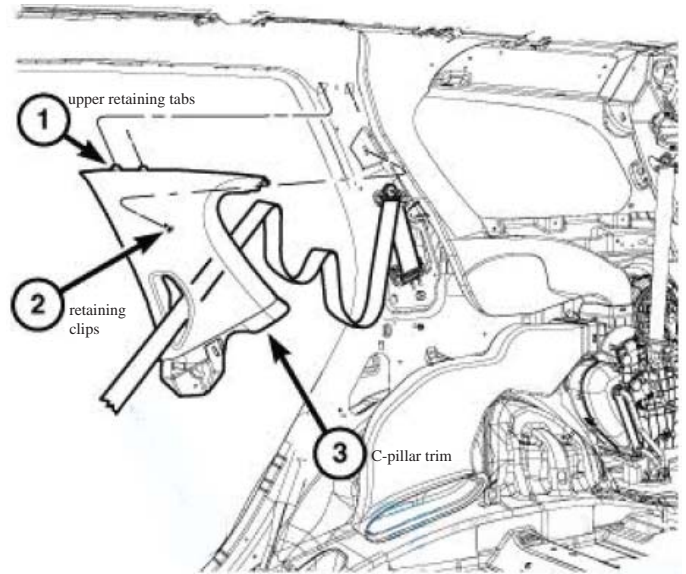

Figure 3
D. Remove C-pillar trim panel (Fig 3)